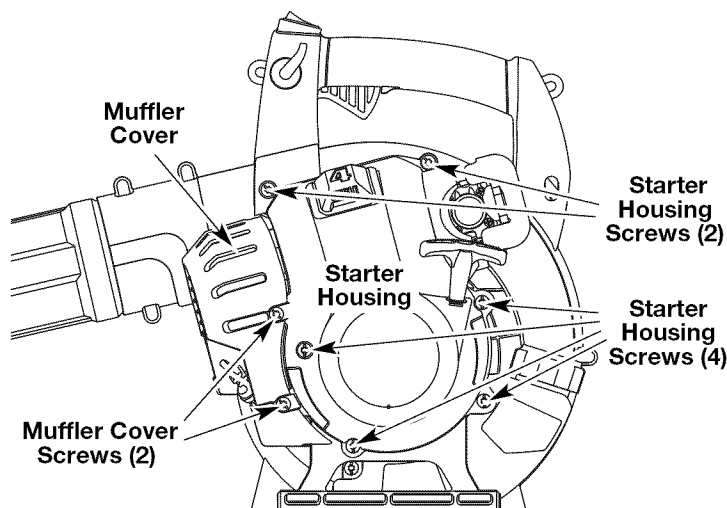

Fig. 28
1. Remove the 2 muffler cover screws with a flat blade or T-25 Torx head screwdriver (Fig. 28), then remove the cover.
2. Remove the 6 starter housing screws with flat blade or T-25 Torx head screwdriver (Fig. 28), then remove the housing.
NOTE: Make sure that the screws are reinstalled into their original holes (Fig. 28).